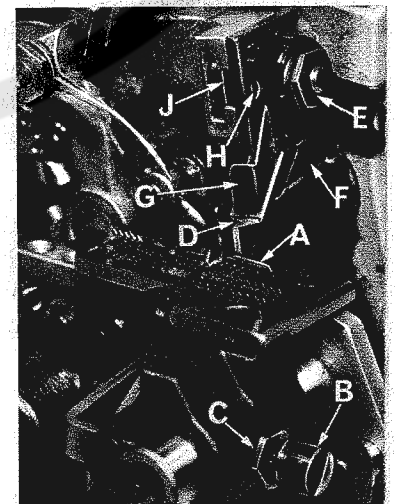

Fig. 13
Replace lower knife holder assembly. Lower knife (A, Fig. 13) should be set with cutting edge flush with throat plate surface. Adjustments are made with hexagonal head screw which holds lower knife. Lower knife is spring pressed against upper knife, so no lateral adjustment is necessary when width of trim is changed.
Replace upper knife assembly. Clamp upper knife (D, Fig. 13) in position, setting nut (E) to hold clamp (F) in its most clockwise position against upper knife. At bottom of its stroke, front cutting edge of upper knife should extend not less than 1/64 inch below cutting edge of lower knife. The chain guard (G) should be set down against the upper knife and slightly back from the cutting edge. See Page 19 for Setting Knife on 39500 JF.